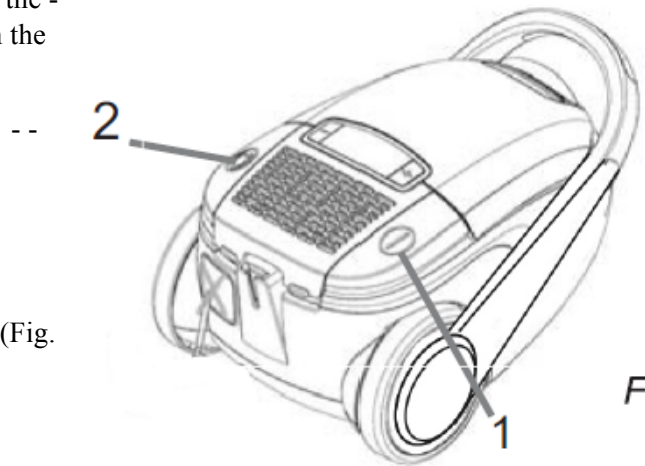

Fig.15
1. Switch off the vacuum cleaner with the on/off switch (Fig. 15/1) and pull the plug from the outlet.
3. To retract power cord, push the cord retracting button (Fig. 15/2).